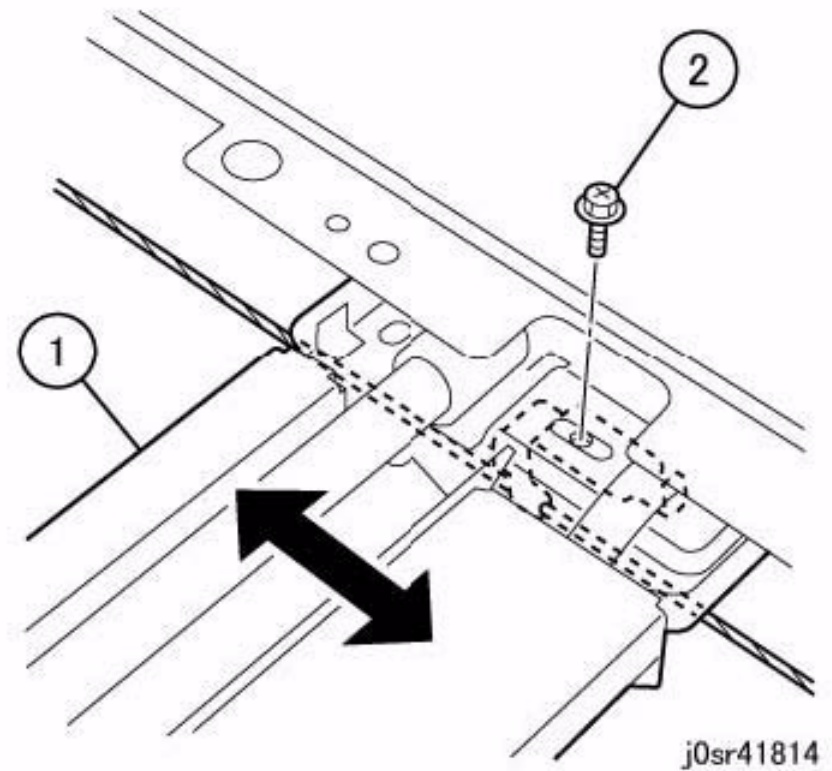

Figure 3 Unfastening the Full Rate Carriage
4. Unfasten the Full Rate Carriage from the Carriage Cable. (Figure 3)